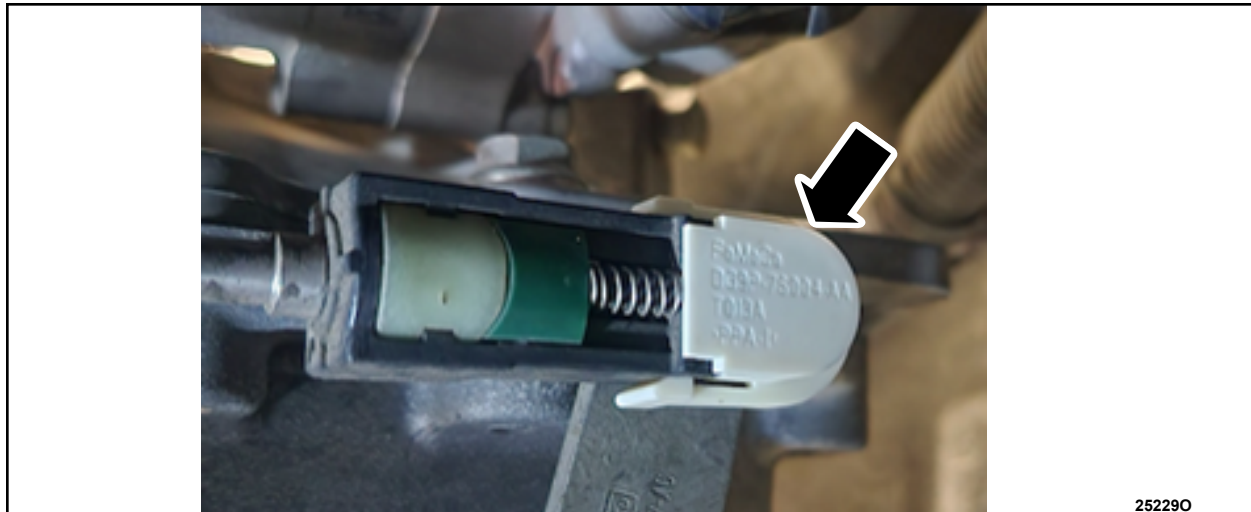

FIGURE 1
6. Does the Shift Cable Assembly have a previously installed protective cap? See Figure 1.